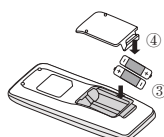

Fig.2
3. Place two 7# (AAA 1.5V) dry batteries, and make sure the position of “ + ” polar and “ - ” polar is correct (as shown in Fig 2 ③).
4. Reinstall the cover (as shown in Fig 2 ④).